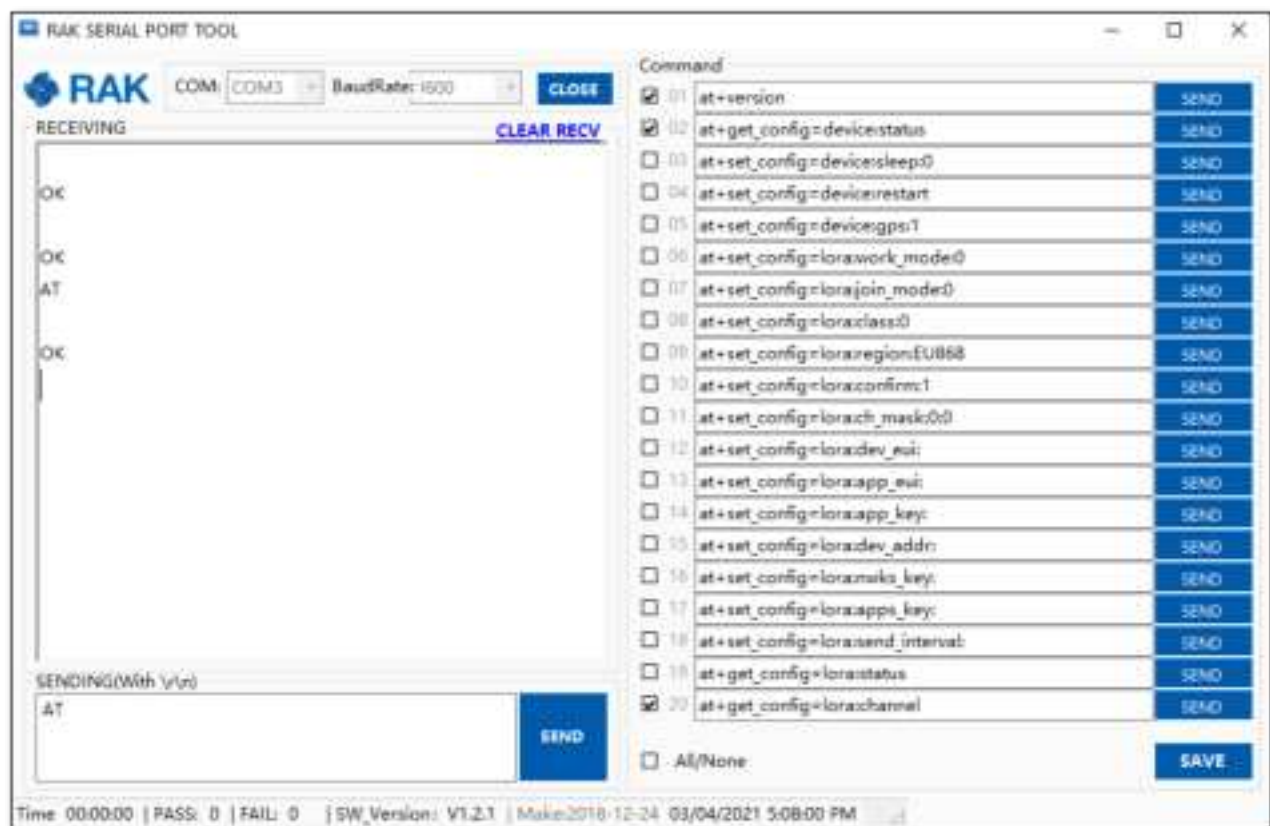

Figure 51: at+version command response
1. To register an ABP device, go to your application console and select the application where you want your device to be added. Then click + **Add end device**, as shown in **Figure 51**.